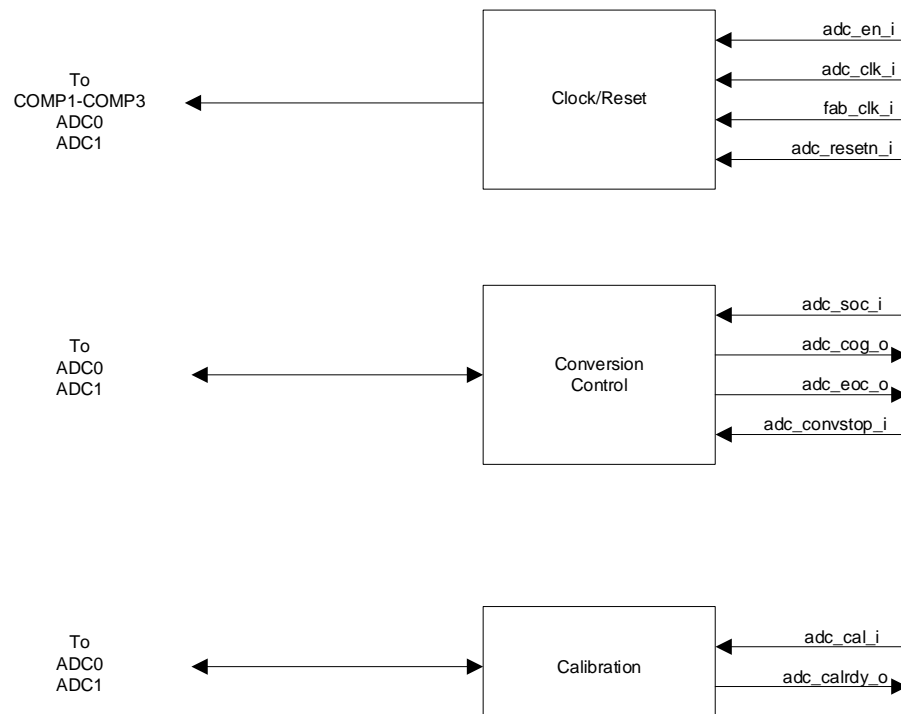

Figure 2.1. ADC Core Module Control and Status Block
- Control/Status Block (see Figure 2.1):